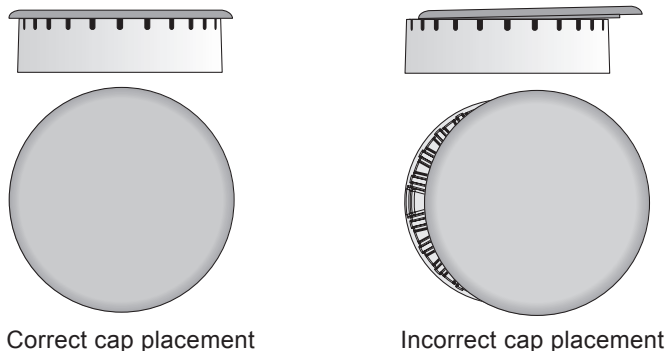

Figure 21: Burner cap placement
2. Make sure each burner cap is properly aligned and level, as shown in Figure 21. Burners may not light or burn evenly if the burner caps are not correctly placed on the head.